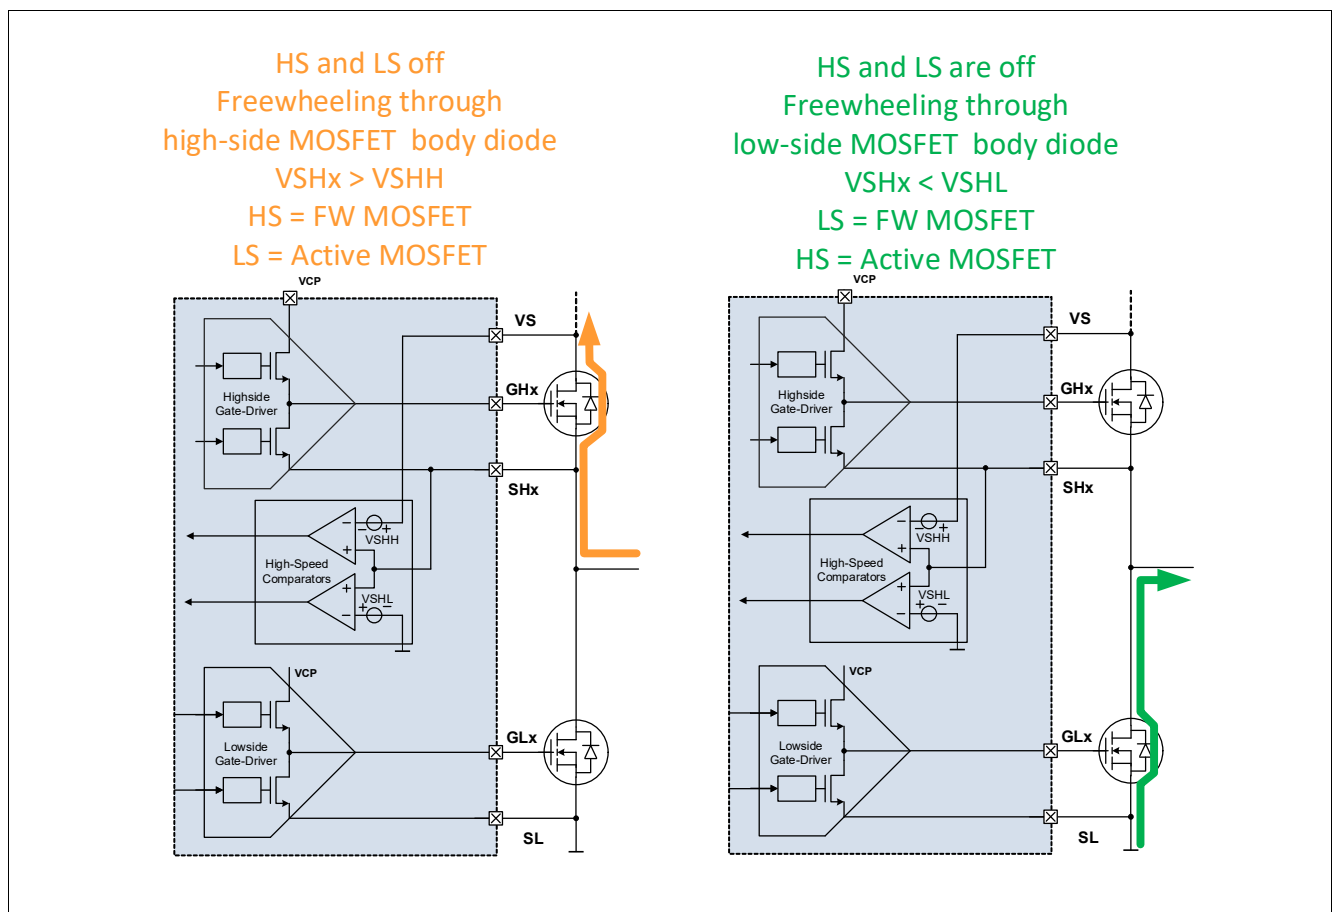

Figure 46 Detection of the active and FW MOSFET (**EN_GEN_CHECK** = 1) - Principle
If **EN_GEN_CHECK** = 1, right before each MOSFET activation, the device detects which MOSFET of the half-bridge is the active MOSFET and which MOSFET is the free-wheeling (FW) MOSFET (**Figure 46**):